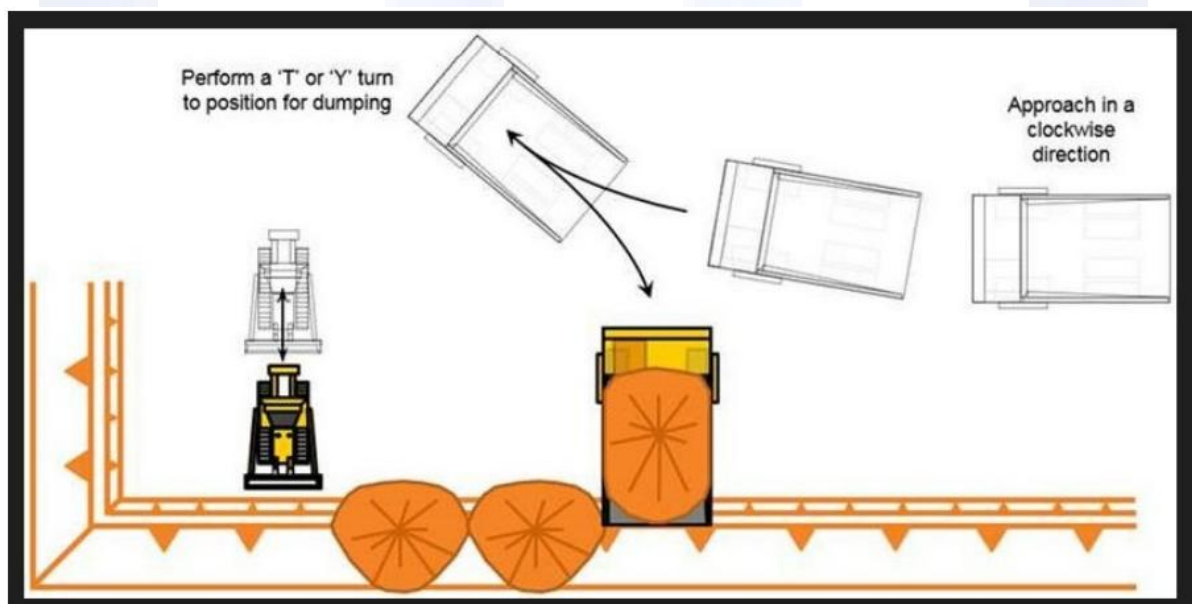

Figure 1 : Example of the standard dumping sequence for a single truck.
- A minimum of two loads separation must be maintained between the tracked dozer working on the dump and the Haul Truck discharging its load (**see Figure 1**)
An example of the standard dumping sequence is shown in Figure 1 below.